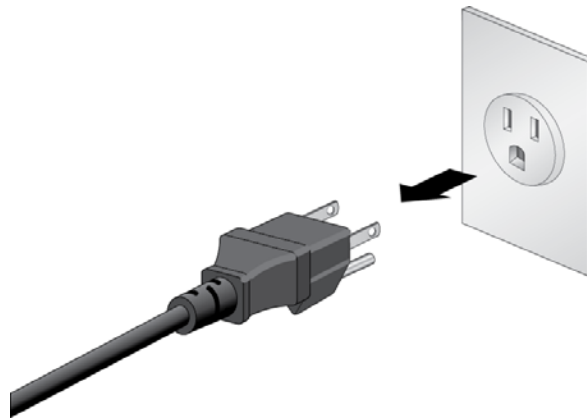

Figure 66. Disconnecting the Power Cord from the AC Power Source
1. Disconnect the power cord from the AC power source. Refer to Figure 66.